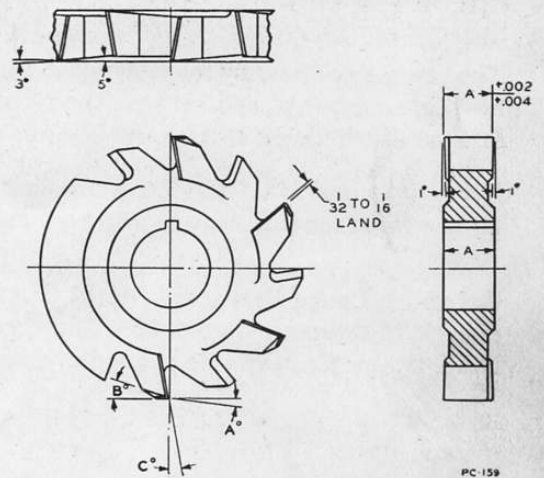

Fig. 23
**Grinding a Stagger Tooth Cutter.** A stagger tooth cutter is one which has alternate side rake in opposite directions, and with teeth whose cutting edges are about half the width of the cut (Fig. 23). The teeth are usually provided with a cutting edge on the sides, similar to a side milling cutter.